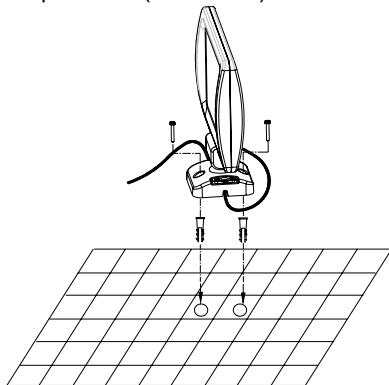

FIGURE 5
6. Fix the base of solar panel to the plastic wall plugs using two screws provided. (FIGURE 5)